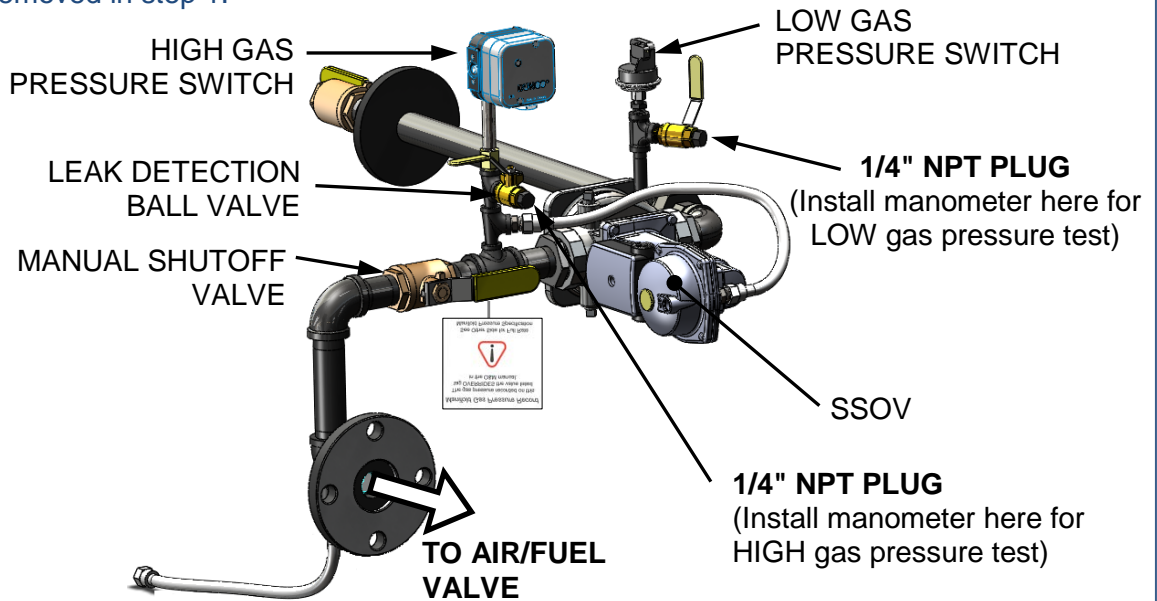

Figure 5-1. Low & High Gas Pressure Testing (INN 1350 Gas Train P/N 22168)
To simulate a low gas pressure fault, refer to Figure 5-1 and proceed as follows:
1. Refer to Figure 5-1 and ensure that the leak detection ball valve located at the **Low Gas Pressure** switch is closed.
2. Remove the 1/4" plug from the ball valve at the **Low Gas Pressure** switch shown in the lower portion of Figure 5-1.
To simulate a high gas pressure fault, refer to Figure 5-1 and proceed as follows:
1. Remove the 1/4" plug from the leak detection ball valve shown in Figure 5-1.